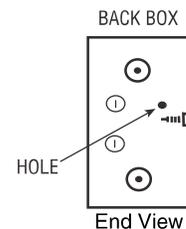

Figure 4
5. Using four (4) wood screws or drywall screws (field supplied) or four (4) nails (field supplied), secure back box to studs (see Figure 1B). If wall studs are greater than 16" oc., use only 2 fasteners and on the opposite end of the back box drive a 1" sheet metal screw (provided) through hole in end cap. This will draw the back box tight with drywall when grille is installed. (See Figure 4.)